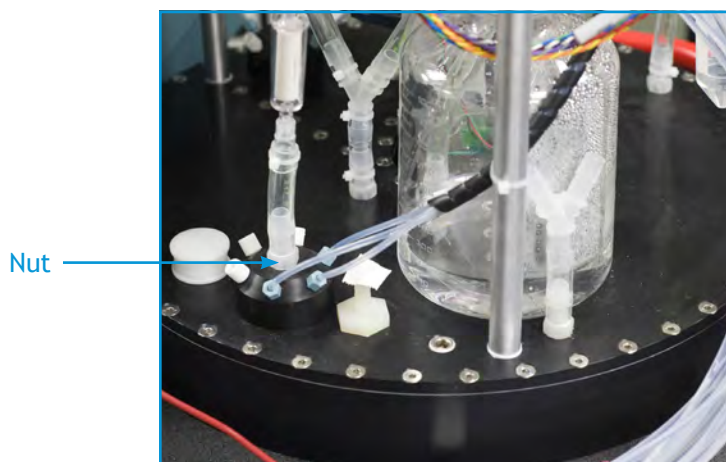

Figure 1-4: Opening to waste container
- Using a 9/16-inch box wrench, loosen the nut for the air-filter assembly from the manifold to the first waste container to be emptied. See Figure 1-4.